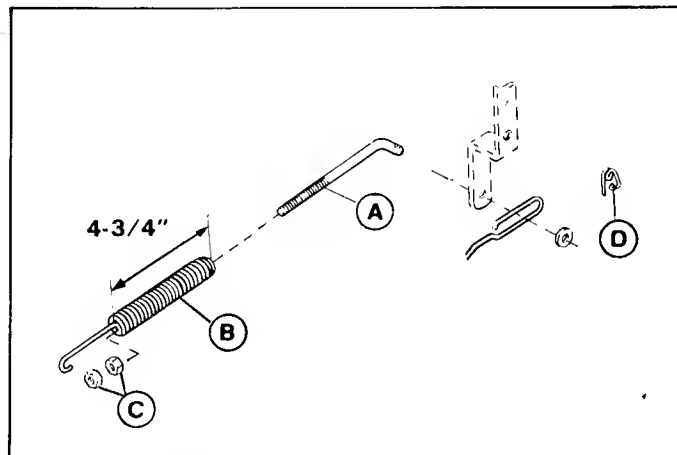

Figure 31. PTO, 42" Mower
4. Disengage the mower PTO lever. Disconnect the PTO rod by removing pin (D, figure 31). Push the PTO rod forward to expose the nuts which are inside the spring. Loosen outer nut so inner nut can be adjusted. Tighten nuts onto rod to increase measurement or back off rod to decrease. Engage PTO lever to re-check measurement. When 4-3/4" measurement is attained with lever engaged, tighten the outer nut against the inner nut. Go to step 5.